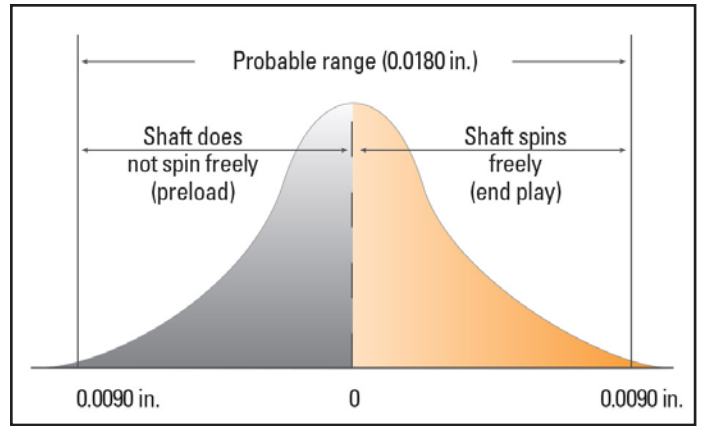

Figure 8 1st Spin Check
1. Assemble the gearbox without a shim and “spin check” — without the seal in place — to determine if the bearings are set with end-play or pre-load. Under the first spin check, if the shaft spins freely, end-play is present (Fig. 8) and the bearings are properly set.